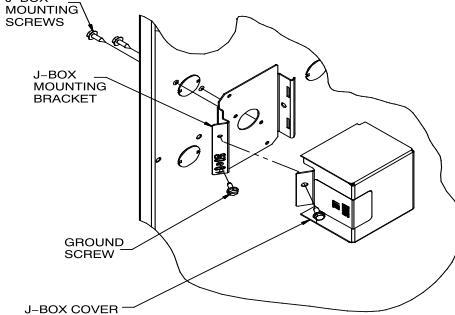

Fig. 34 – Installing J-Box (When Used)
The J-Box cover, mounting bracket and screws are shipped in the loose parts bag included with the furnace. See Fig. 34 for J-Box mounting locations.
1. Install J-Box mounting bracket to inside of furnace casing. See Fig. 34.
5. Connect field ground wire and factory ground wire to green ground screw on J-Box mounting bracket as shown in Fig. 34.
7. Attach furnace J-Box cover to mounting bracket with screws supplied in loose parts bag. Do not pinch wires between cover and bracket. See Fig. 34.
4. Connect field ground wire and factory ground wire to green ground screw on J-Box mounting bracket as shown in Fig. 34.